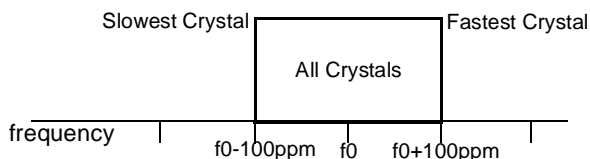

Figure 4-1. Crystal Tolerance
- Crystal tolerance is a crystal parameter that measures the maximum and minimum frequency. It is usually measured in parts per million (ppm) of the nominal frequency (f_0). The higher the ppm, the larger the difference between different crystals. Figure 4-1 shows an example of a 100 ppm crystal.